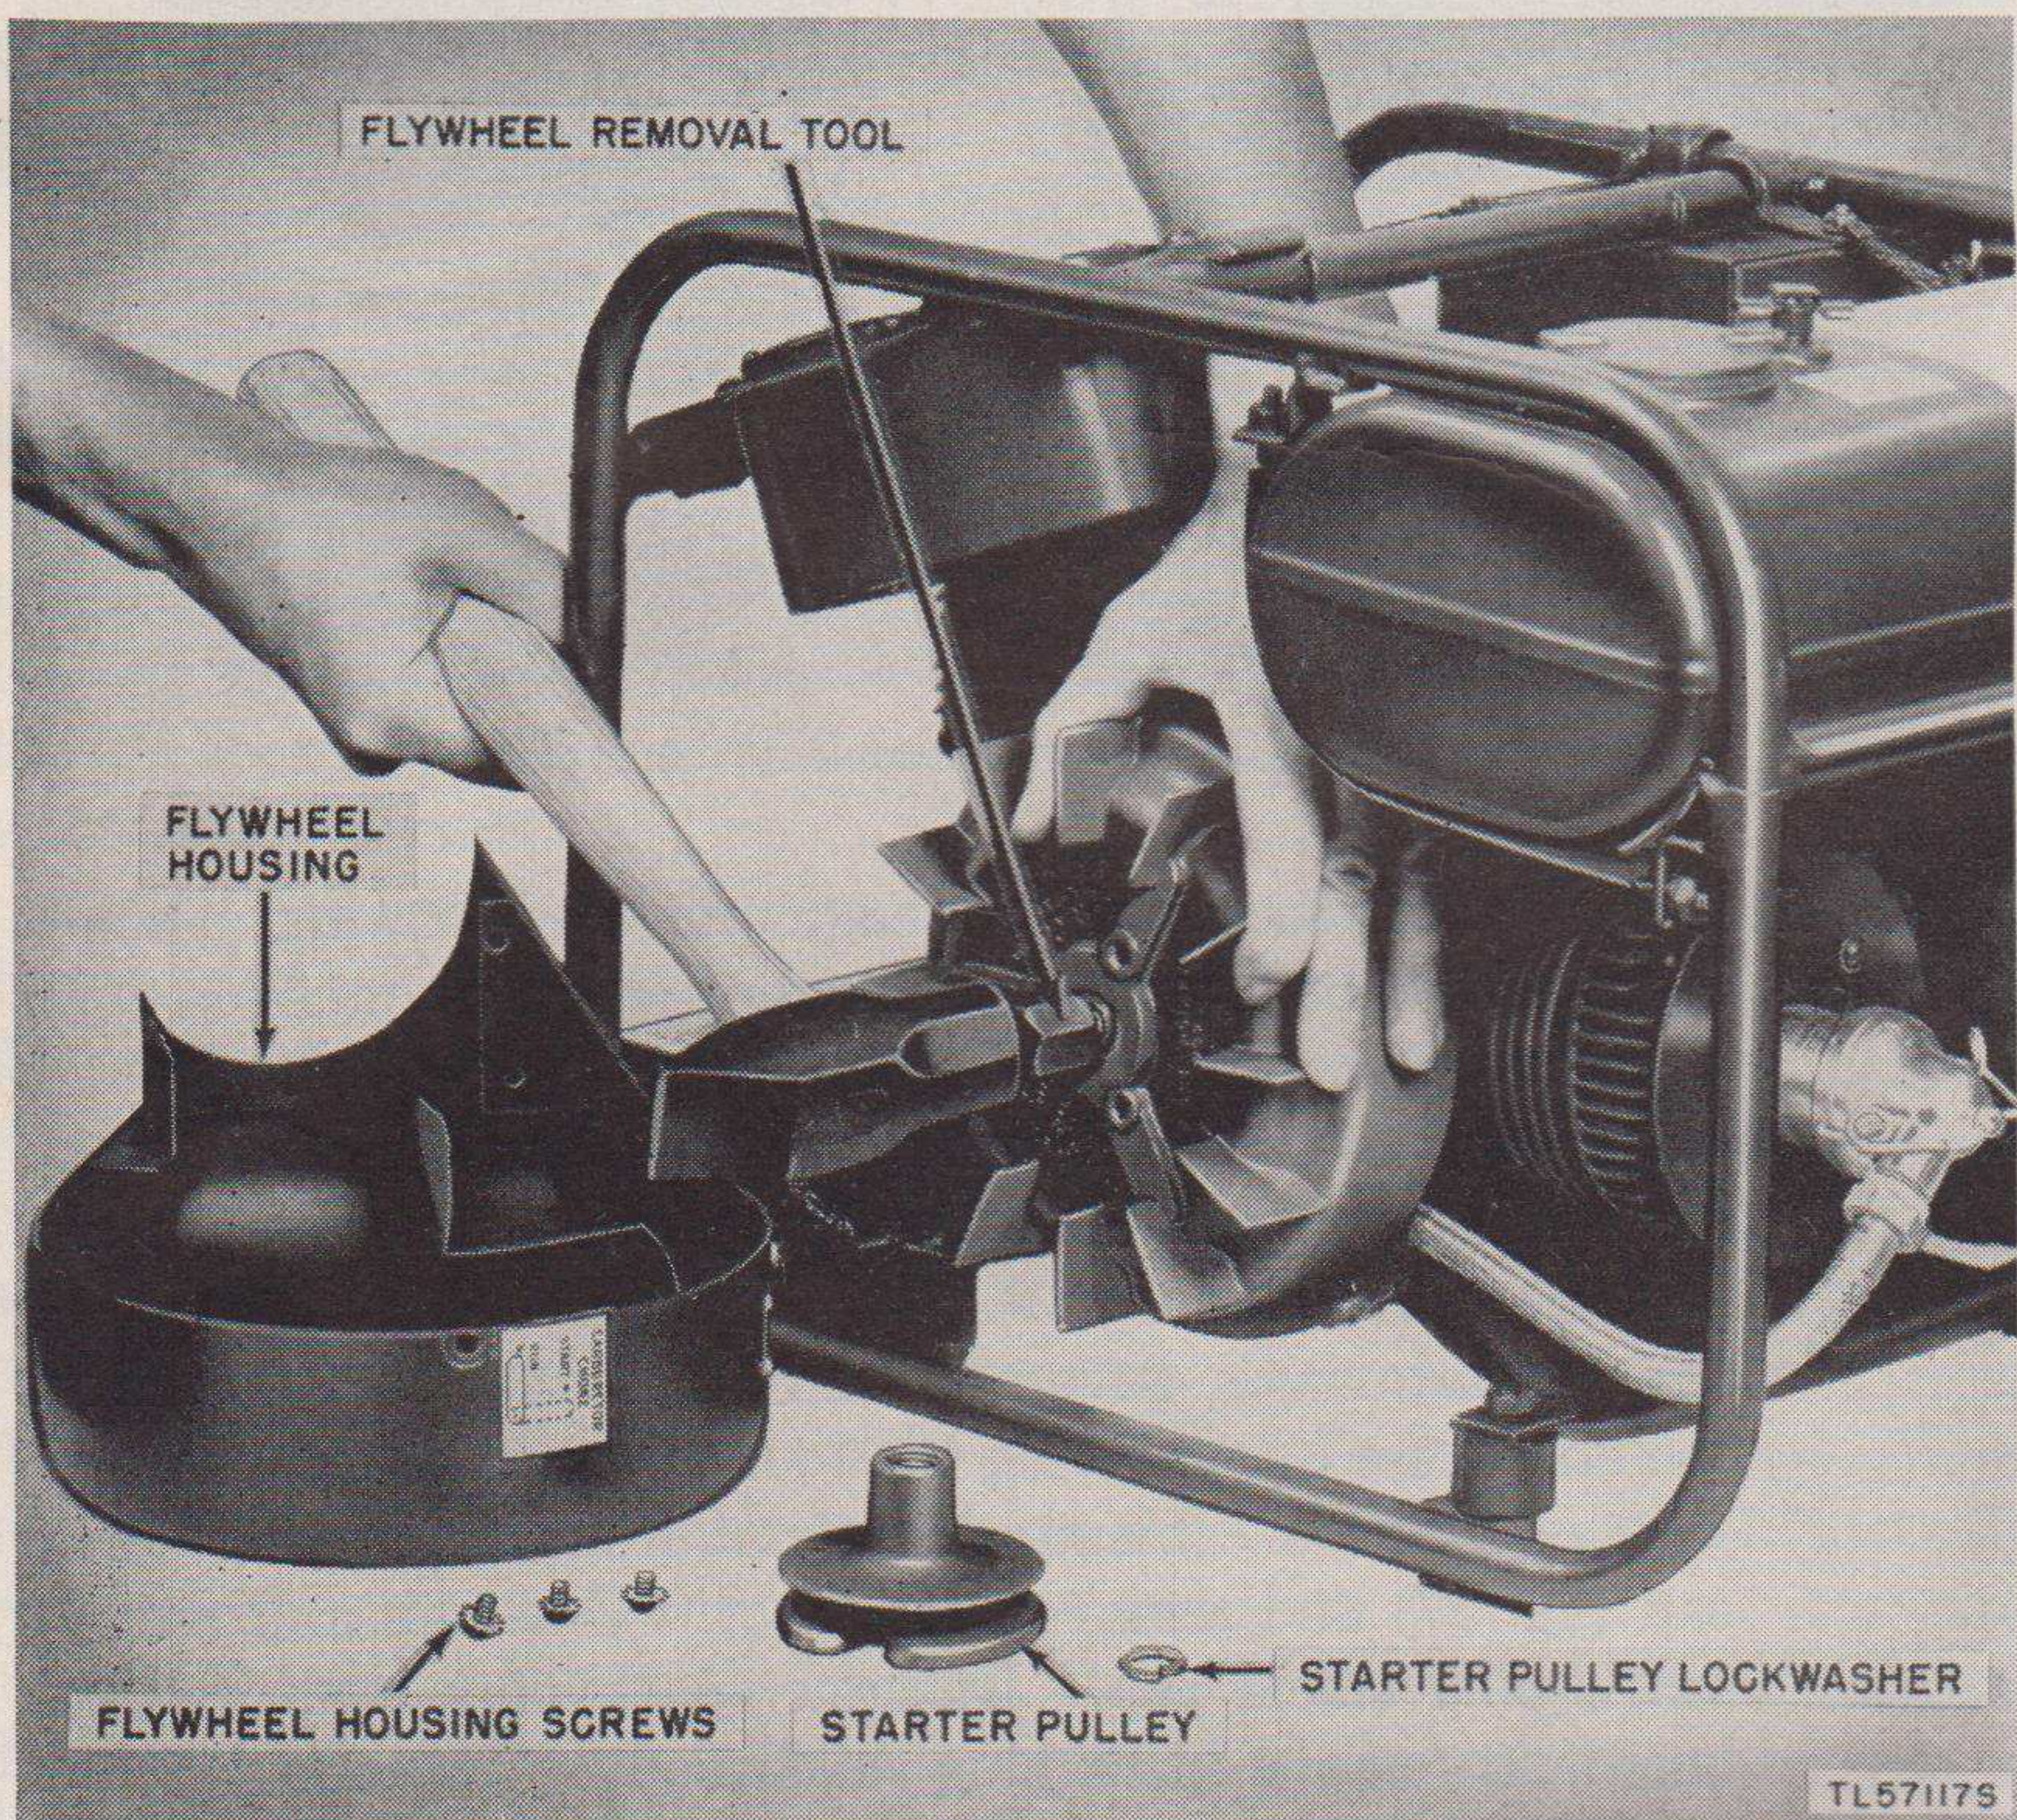

Figure 18. Removing flywheel.
- (e) Remove the flywheel housing (fig. 7), which is attached by three screws with lockwashers. Insert a punch (or rod) through the starter pulley, turn counterclockwise, and unscrew pulley from crankshaft. Screw the flywheel removal tool onto the crankshaft and tap its end with a hammer until the flywheel loosens on the crankshaft taper (fig. 18). Pull on flywheel to take advantage of any crankshaft end play. Remove flywheel from crankshaft.